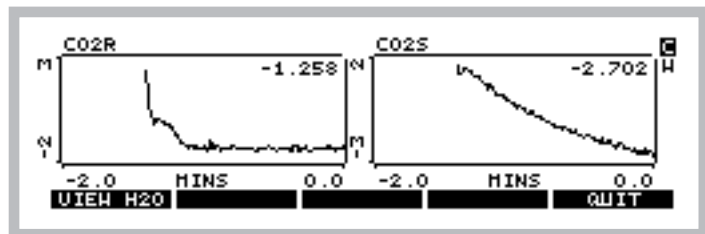

Figure 18-9. Pressing **plot (f4)** brings up strip charts for H₂O and CO₂. Switch between the two by pressing **C** and **H**, or **f1**.
Watch CO₂R_μml and CO₂S_μml (reference and sample cell CO₂ concentrations), and also their rates of change (*Slp*(CR) and *Slp*(CS)). and when they get as low as they will go, you are ready. (If you wish to see this graphically, press **Plot (f4)**. A typical plot is shown in Figure 18-9). To return to the normal text display, press **escape** or **QUIT**). It should take less than 2 minutes to get reasonably stable readings.